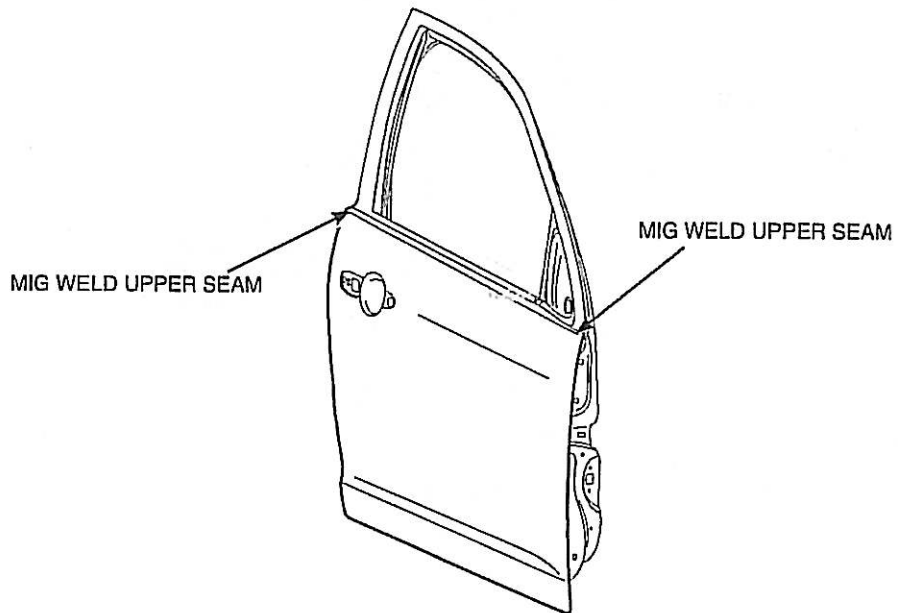

FIGURE 4
15. Turn the door over, then MIG weld the upper beltline joint. Finish grind and trial fit the upper beltline molding and mirror (refer to Figure 4).